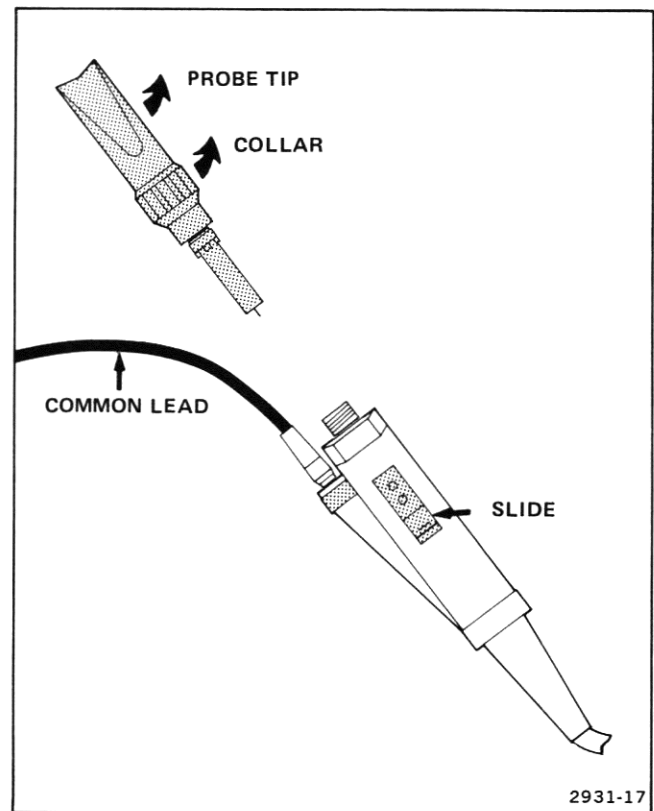

Figure 2-8. Replacing the 1500-V probe tip.
To replace the 1500-V Probe tip with a new one, refer to Figure 2-8 and perform the following steps:
2. Retract the slide to the position shown in Figure 2-8. The slide will stay in this position, and the spring inside the probe tip should cause the probe tip to return to its original position. If this does not occur, hold the slide in the retracted position and pull the probe tip away from the probe body until it reaches its original position.